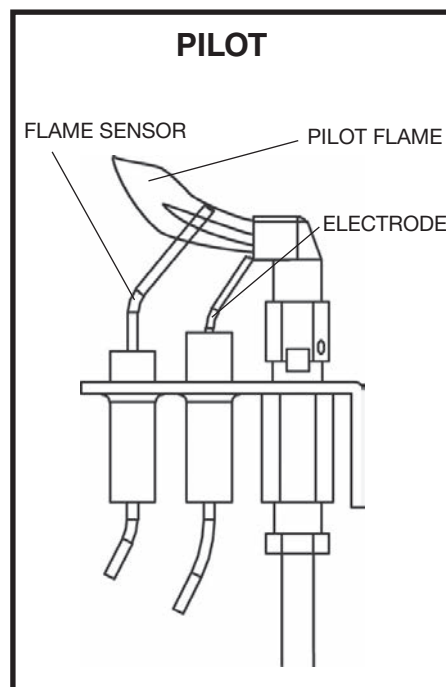

Figure 101: SIT pilot assembly.
- Check the pilot system for proper flame size and operation. Clean pilot free of soot, dust or any other deposits (Figure 101 and Figure 102). Have a qualified service person adjust the pilot flame.